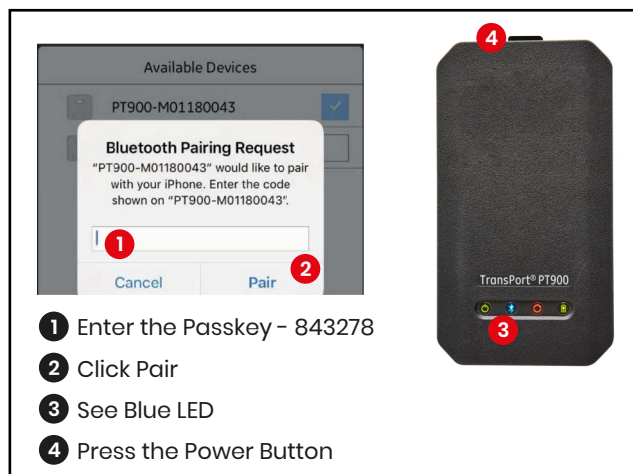

Figure 68: Confirm the Pairing
- 11.** During the pairing process, PT900 security features require the user to confirm the pairing (see Figure 68 below). When the Bluetooth pairing request appears on the tablet, enter the passkey and click Pair. Then, confirm that the blue LED on the transmitter is flashing and click the transmitter power button within 10s. Passkey for this device is 843278.